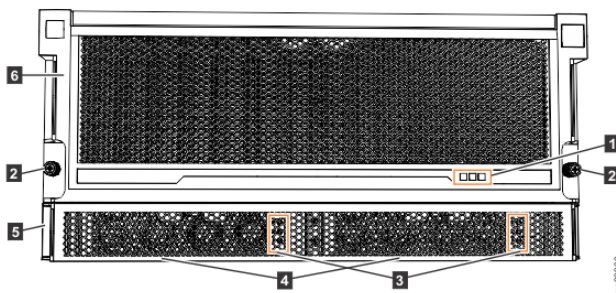

Figure 46. Features on the front of the 5U expansion enclosure
**Important:** Before you connect the power cables to the rear of the enclosure, always check that the expansion enclosure is secured in the rack. If needed, tighten the thumbscrews on the front of the enclosure (2 in Figure 46 on page 87) to ensure that the enclosure drawer does not roll open.
The 5U expansion enclosure has two power supply units (PSUs) that are accessible from the front of the enclosure (4 in Figure 46 on page 87). As the figure also shows, the PSUs are covered by the 1U fascia (5).
On the front of the enclosure, the indicators on the front display panel and each PSU (1 and 9 in Figure 46 on page 87) are also lit when the power is connected. See “High density expansion enclosure LEDs and indicators” on page 201 for information about the status that is provided by the indicators.